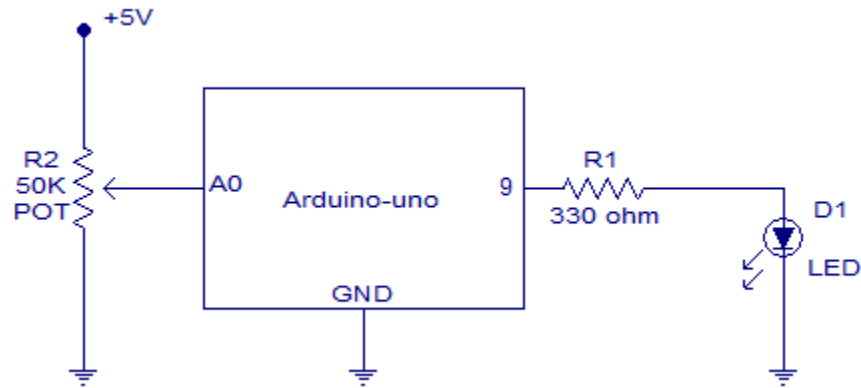

Fig 1: Schematic diagram of PWM control of LED brightness using potentiometer
4. For potentiometer. Connect the circuit as shown in the Fig 1. For LDR go to step 7.